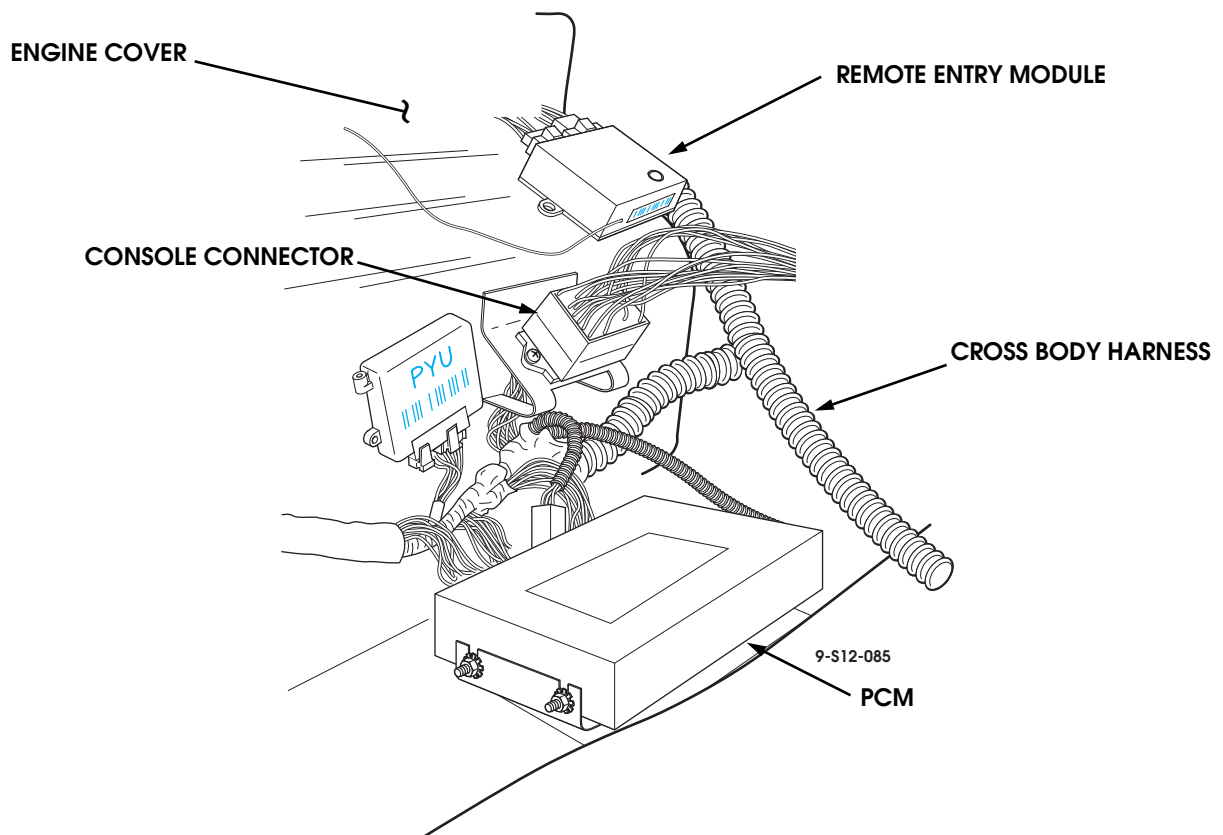

Figure 12-109: Remote Entry Receiver
2. Disconnect two receiver harness connectors from receiver (Figure 12-109).
2. Disconnect wire connection at receiver and remove receiver from engine cover (Figure 12-109).